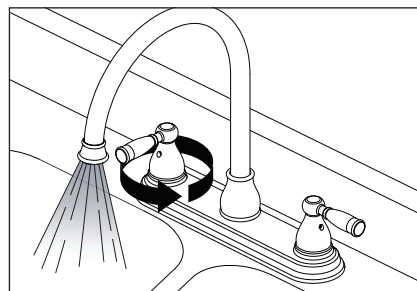

Figure 9 - Let the hot water run until it is cool.
- Open a hot water faucet and let the hot water run until it is cool (Figure 9). **NOTICE:** This may take 10 minutes or longer.